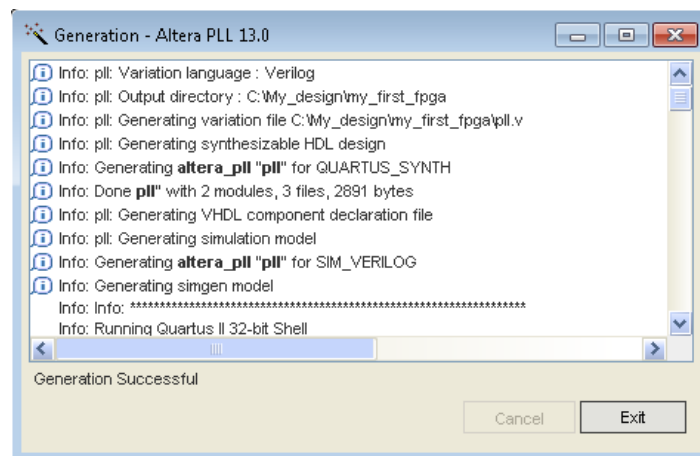

Figure 3-12 PLL Generation
8. Click Finish . It leads to **Figure 3-12**.Click Exit.